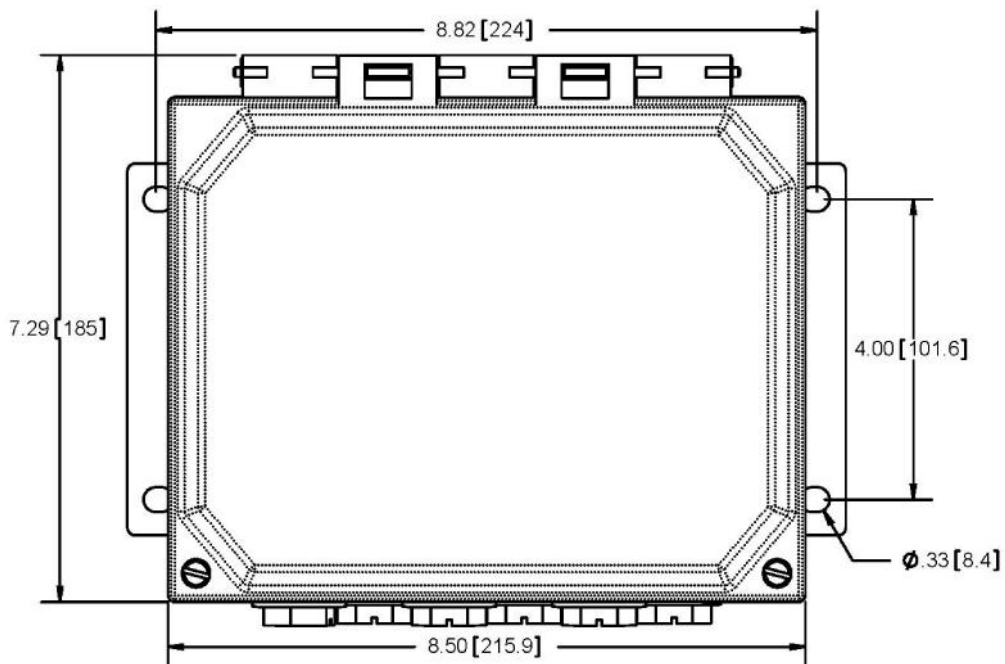

Fig. 3
Mount the controller using the four (4) holes provided (Fig. 3).